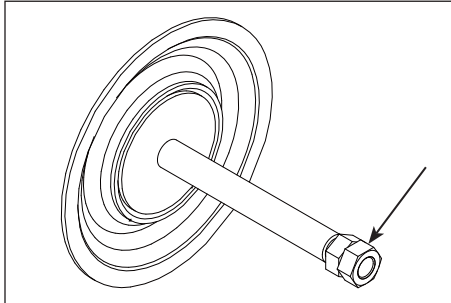

Figure 18
- Remove the nut on the opposite side using the double nut (See Figure 18).